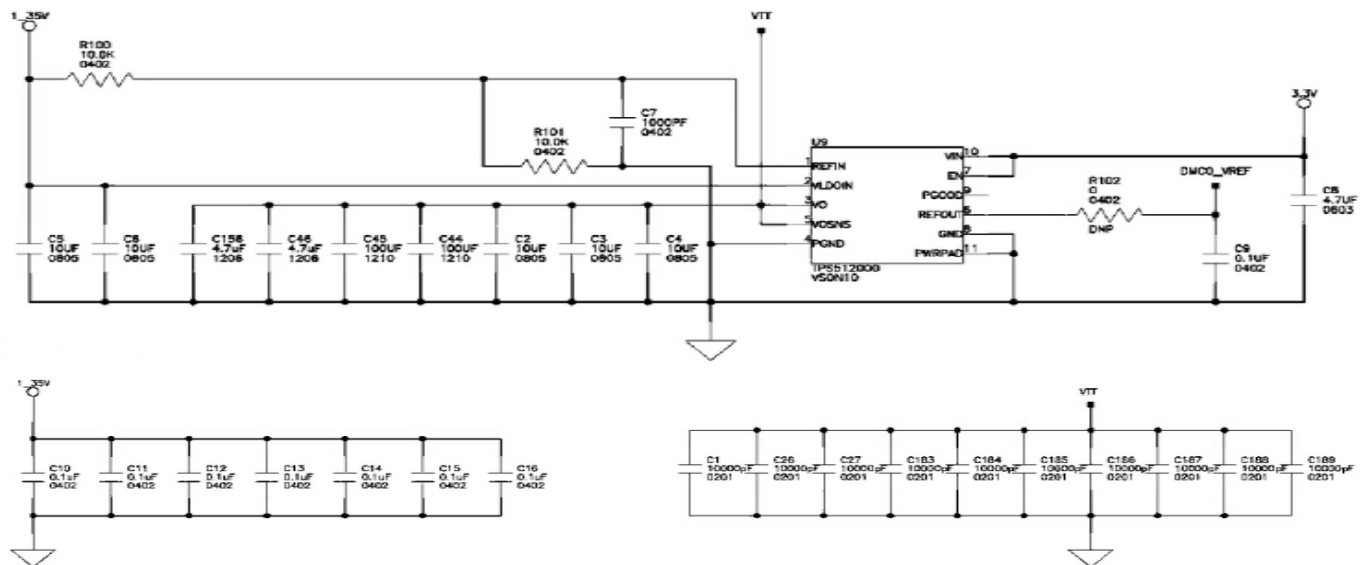

Figure 3. VTT Supply and Decoupling Scheme
- VTT islands require at least two additional decoupling capacitors (4.7 μ F) and two bulk capacitors (100 μ F). Place the capacitors at each end, as in Figure 3. VTT Supply and Decoupling Scheme.